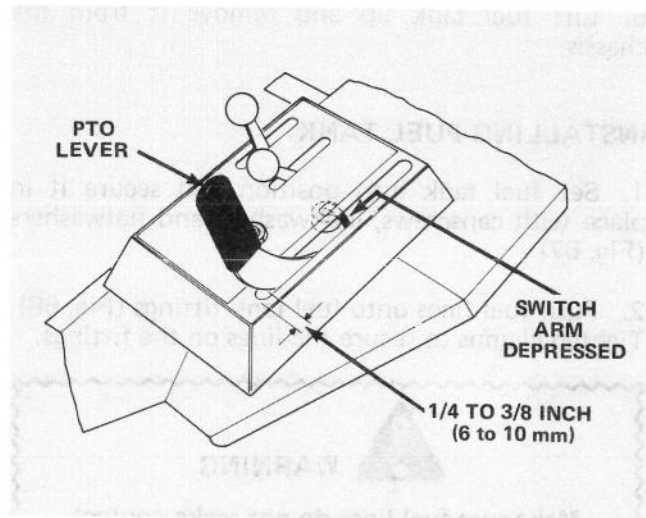

Figure 70
1. Visually check PTO lever to be sure it deflects switch arm when lever is in the disengaged position (Fig. 70). Back surface of PTO lever must be within 1/4 to 3/8 in. (6 mm to 10 mm) from end of the slot (Fig. 70). If PTO lever does not deflect switch arm, proceed to step 2.
2. Pull high tension wire off spark plug. To adjust the PTO lever, remove the seat cover. Loosen jam nut from PTO engaging yoke (Fig. 71). Loosen adjusting screw until PTO lever is within 1/4-3/8 in. (6-10 mm) from end of the slot, when lever is in the disengage position (Fig. 70). This will deflect the switch arm. Tighten jam nut against yoke to lock the adjustment in place (Fig. 71). Move PTO lever to disengage position and rotate locknut at top of spring until the dimension of spring, between the top and bottom flatwasher, is 3-9/16 in. (9.0 cm) (Fig. 71). Repeat step 1.